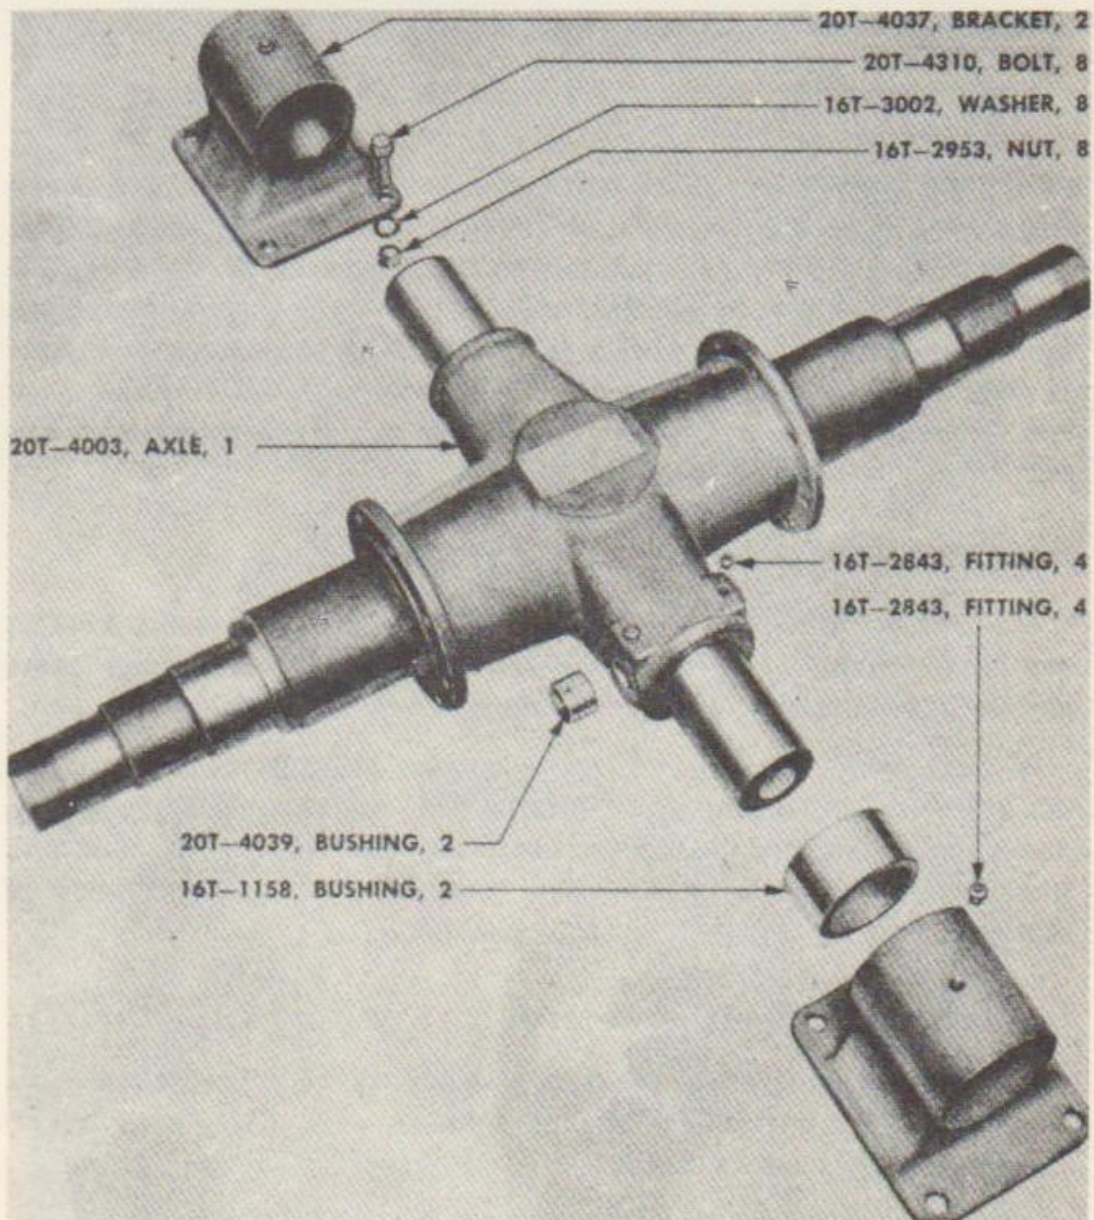

FIGURE 81. TRUNNION AXLE—EXPLODED VIEW
b. Assembly (fig. 81). Place mounting bracket on arbor press and press in one bushing 16T 1158, leaving end of bushing flush with end of mounting bracket. Turn mounting bracket end for end, and install second bushing in the same manner. Place cap over end of mounting bracket and tack weld in position.